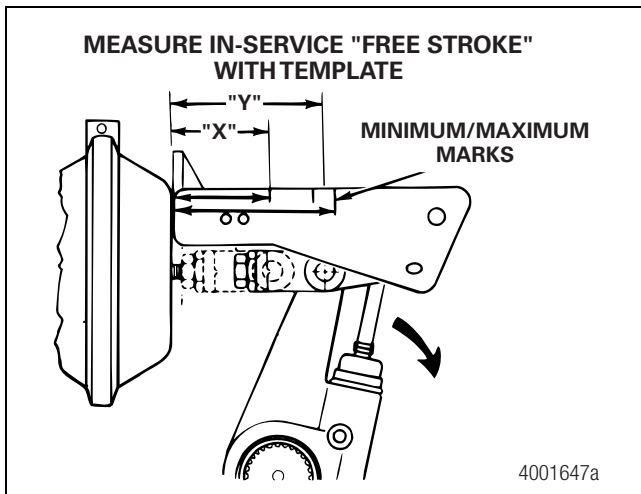

Figure 11.9
1. Position the narrow end of the template against the bottom of the air chamber. The center of the large clevis pin must be at the mark on the template indicated "CL of large clevis pin." Figure 11.9.